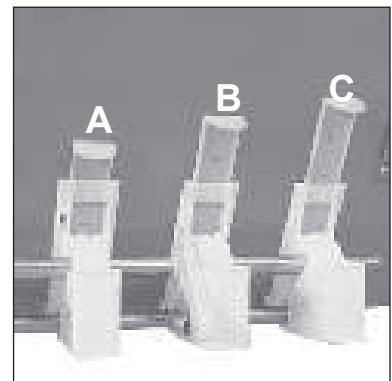

fig 9
The varying flow properties of seeds require different shutter slide positions which may be found in the Sowing Chart for the individual type of seed. This corresponds to one of the three settings in Fig 9.
- 3 Make sure **all the shutters** are open and set to the position indicated in the seed charts for your particular seed. Refer P 14, Fig 6 & P 15, Fig 9.